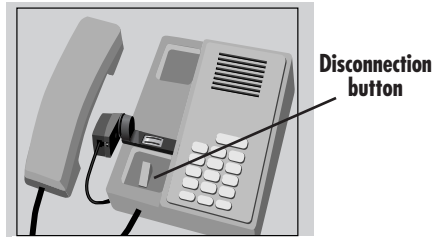

Figure 2-4. Placing the Hookswitch.
1. The Hookswitch should be placed as close to the telephone's disconnection button(s) as possible (Figures 2-4 and 2-5).